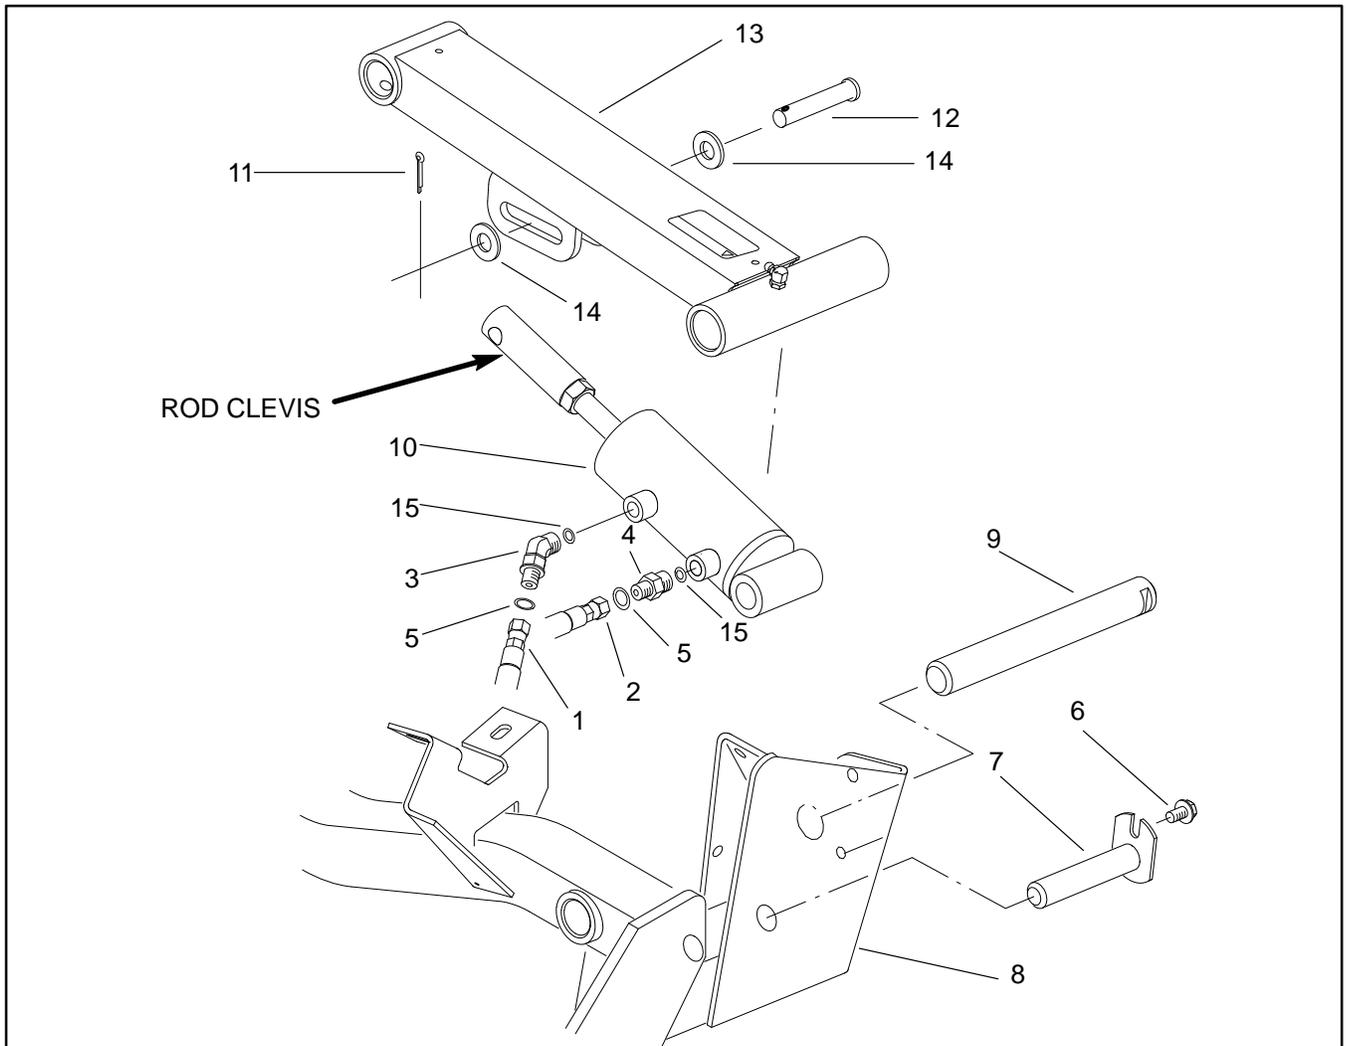

Figure 63
### Removal (Fig. 63)
### Installation (Fig. 63)
5. If rod clevis (14) has been removed, verify that the distance between the carrier frame rollers (bumpers on later models) and the foot step is about 1/4-inch (6 mm) with the cutting units fully raised. Adjust rod clevis as necessary. (Fig. 63)
- C. Separate rod clevis from lift arm (13) (Fig. 63).
- E. Position rod clevis into lift arm (13) (Fig. 63).
- F. Install clevis pin (12) and flat washers (14) into the lift arm (13) and rod clevis. Secure clevis pin with cotter pin (11) (Fig. 63).